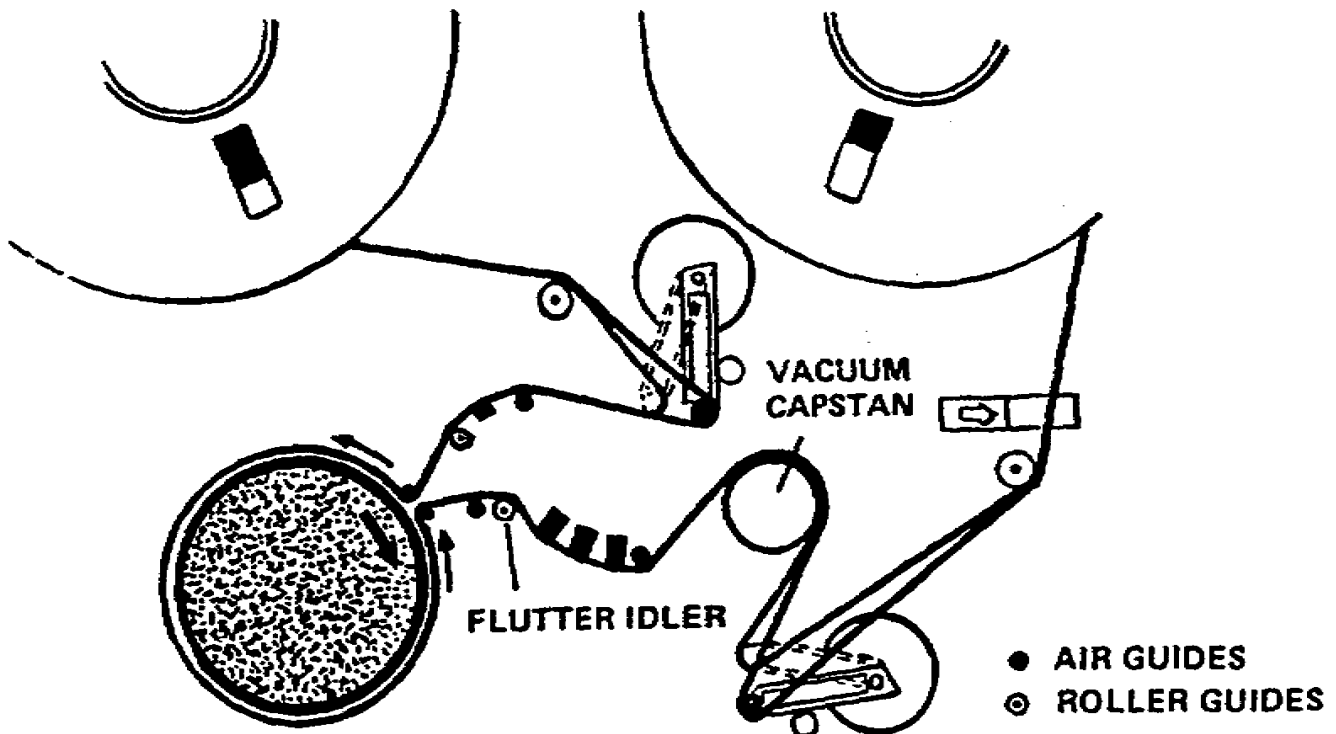

Figure 1-1. Helical scan videotape transport
2. Helical scan means "in a spiral formation," a line around a cylinder at an angle other than parallel with the axis. Thus, we gain a mental picture of the tape path around the head assembly of the helical scan recorder/ producer (fig 1-1).